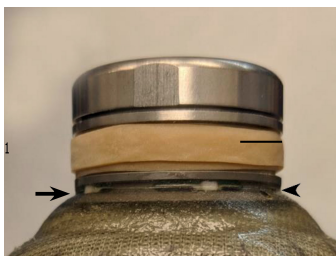

Figure 11
2. Fill in the groove on the umbrella using the provided rubber bands (Figure 11). The rubber should be flush with the metal surface above and below the groove.